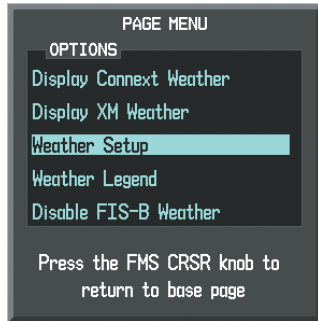

Figure 6-100 Weather Data Link (FIS-B) Page Menu
- 3) With 'Weather Setup' highlighted, press the **ENT** Key (Figure 6-100).